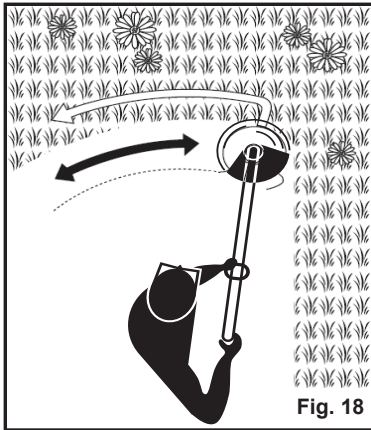

Fig. 18
6. Work rhythmically. Stand firmly with your feet apart. Cut from right to left so clippings are thrown away from the trimmer head (Fig. 18).